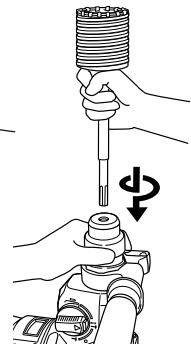

Fig. 34
- (2) Mount the core bit to the rotary hammer (Fig. 34).